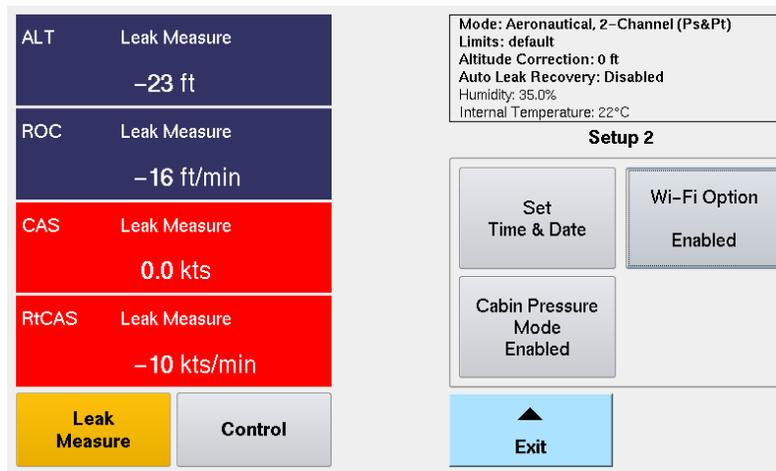

Figure E. 5 Enabled Cabin Pressure Mode
5. The unit will change the Cabin Pressure Mode to Enabled (Fig. E. 5).